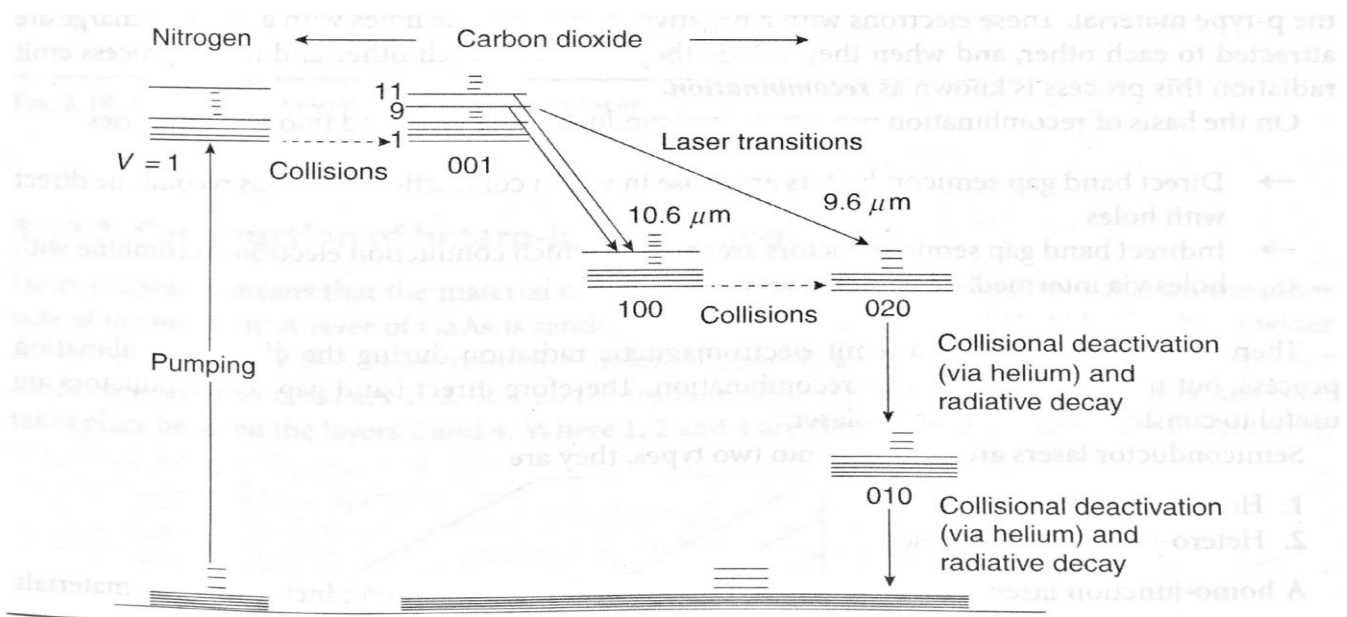

FIG. 5.15 Energy level diagram
in Fig. 5.15. In CO_2 laser, the excitation is provided by electric discharge. Excited N_2 molecules transfer their energy to the CO_2 molecule in resonant collisions exciting them to (001) level which are metastable level with relatively longer life time. With sufficient pumping, a population inversion is produced between (001) state and (100) and (020) states respectively and laser transition begins.